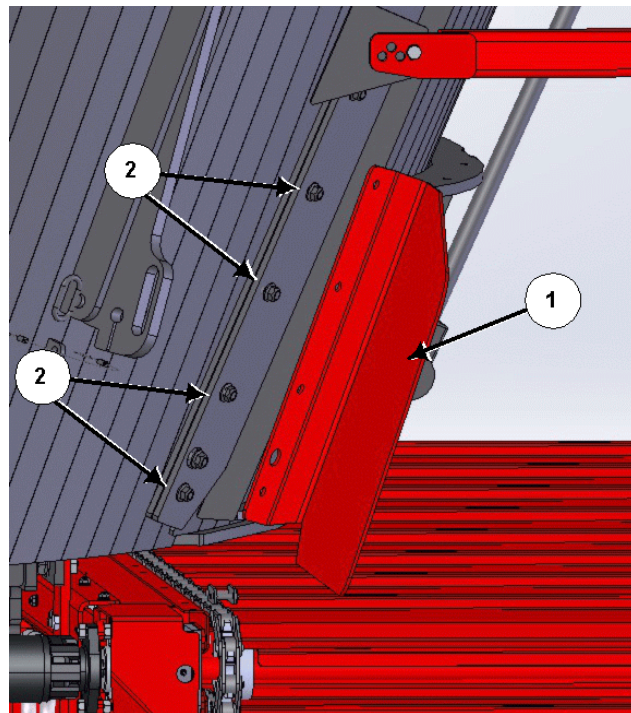

Figure 13: Attach the right side shield
10. Attach the right side shield (1) to the tub, as per *Figure 13*.
- a. Remove the bottom 4 lock nuts (2) on the right tub door slide cap.
- b. Place the side shield (1) over the 4 carriage bolts.
- c. Fasten with the 4 lock nuts (2) removed earlier.